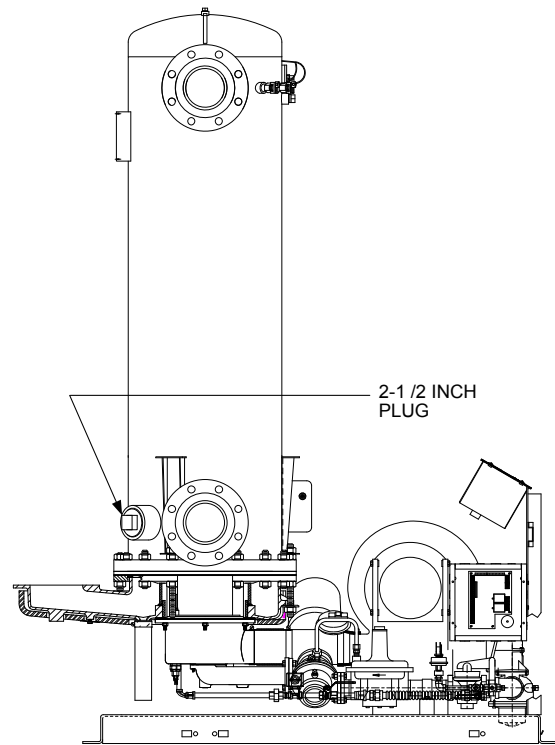

Figure 7.10
4. Remove the 2 ½ inch plug located in the shell at the rear of the unit (Figure 7.10).